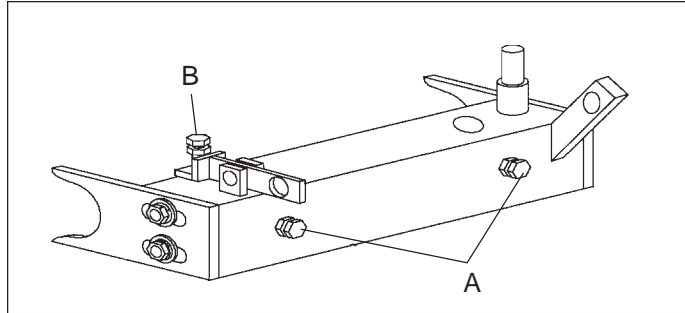

FIGURE 15
Scissor swing/plate swing on tractor - Turn leveling bolts(A) (figure 15 and 16) in or out in equal amounts. If the front of the swing assembly is high, turn the leveling bolts in. If it is low, turn the leveling bolts out.
Scissor swing - Turn adjustment screw (B) (figure 15) in to lower the right-hand side of the brush head assembly. Turn it out to lower the left-hand side.